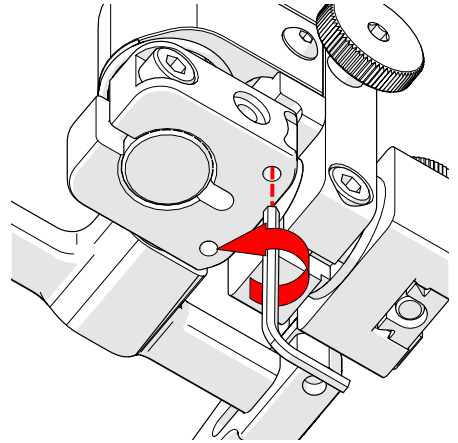

Fig. 83 - Lower 90° stop post
7. Locate the recessed M3 screw (stop post) on the bottom of the probe holder. Unscrew the stop post using a 1.5 mm hex wrench until it has cleared all obstructions. Do not remove the stop post (Fig. 83).